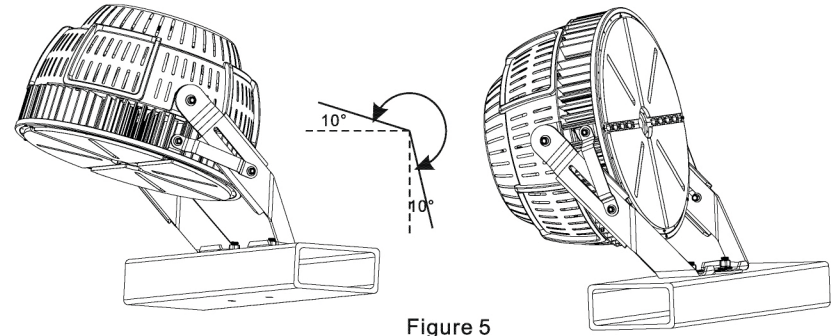

Figure 5
5. According to the need, adjust the projection angle, angle adjustment range (Figure 5);